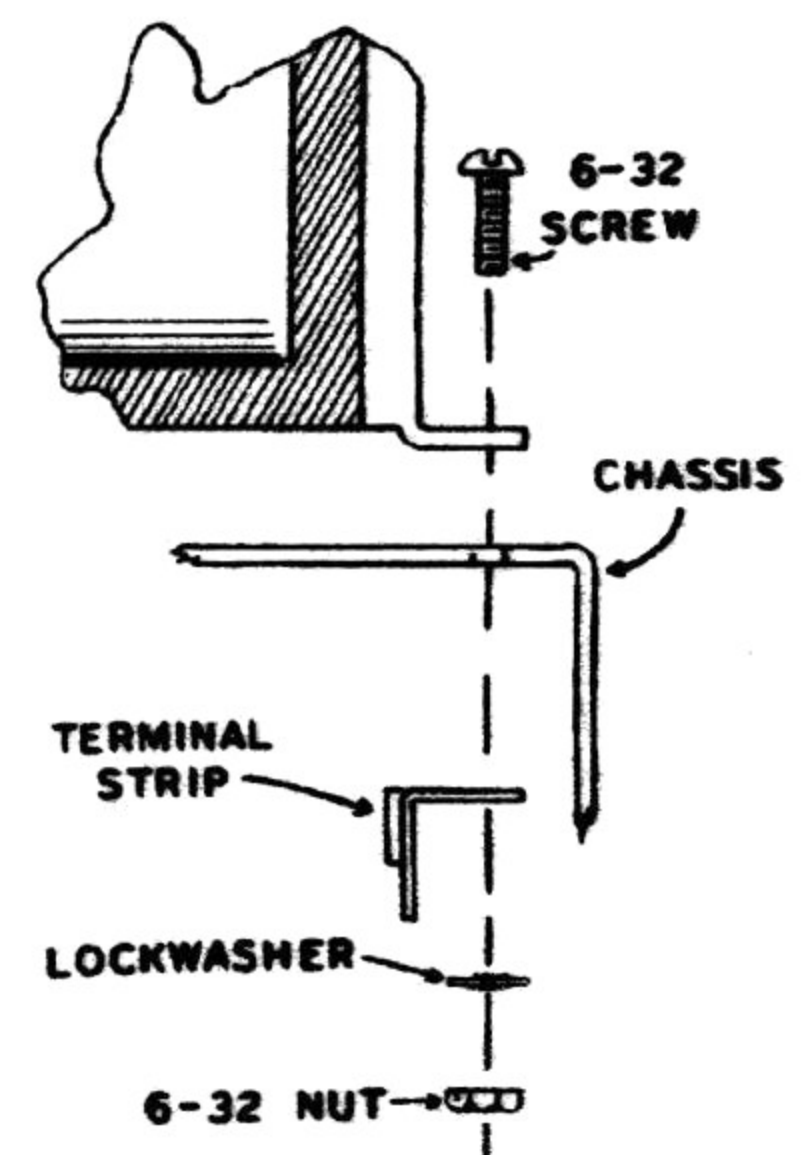

Figure 4
- ( ) Mount the power transformer on top of the chassis. Also install the 3-lug terminal strip as shown in Figure 4.